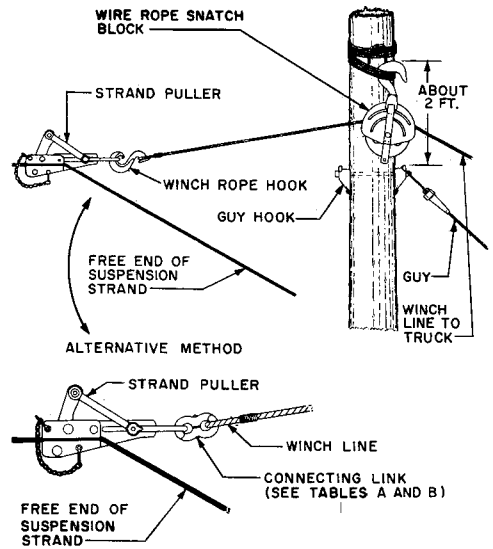

Fig. 2 – Pulling Up 6M or 10M Suspension Strand – Winch Line Method
4.06 For heavy pulls and for tensioning long sections of strand where a considerable amount of slack is to be removed, the winch line should be used, if possible. Where the winch line is used, it should be rigged as illustrated in Fig. 2 for 6M or 10M suspension strand, and as illustrated in Fig. 3 for 16M or 25M suspension strand. Where a connecting link is used on the winch line, as shown in the alternative method in Fig. 2, use a size which will not permit the safe working loads specified in Tables A and B to be exceeded.